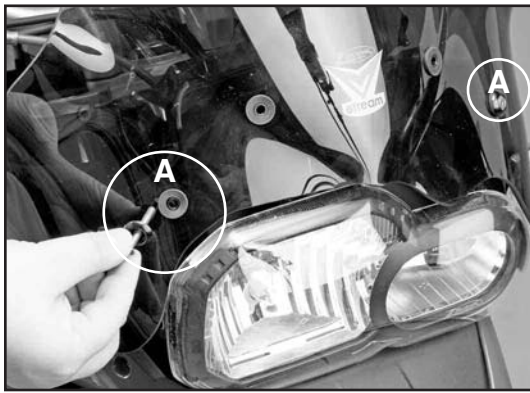

Figure 15
10. Start at the outer mount locations (A) and install windscreen using screw assembly as shown in figure 15 and diagram c. **Do not fully tighten at this time.** (5mm Hex Wrench, Closed Box Wrench) Figure 15, Diagram c